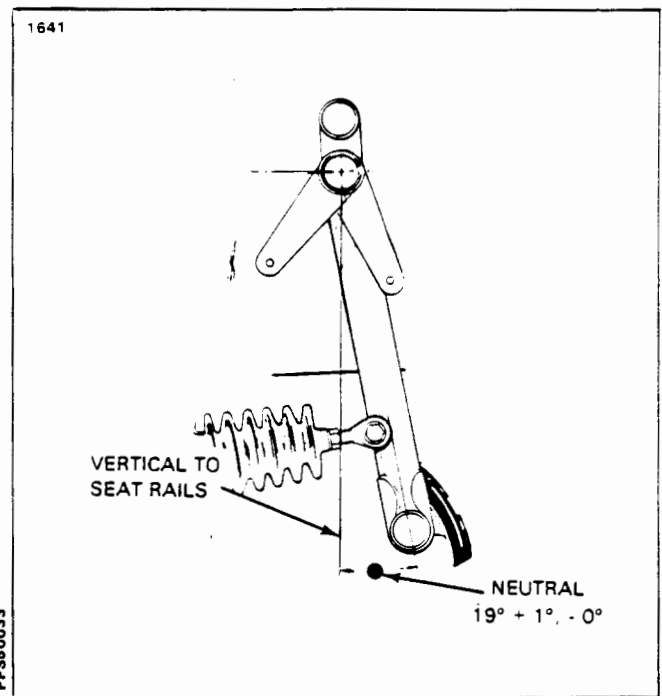

Figure 32-11. Rudder Pedals at Neutral Angle
13. Place a bubble protractor against a rudder pedal steering tube to check the neutral angle as shown in Figure 32-11.